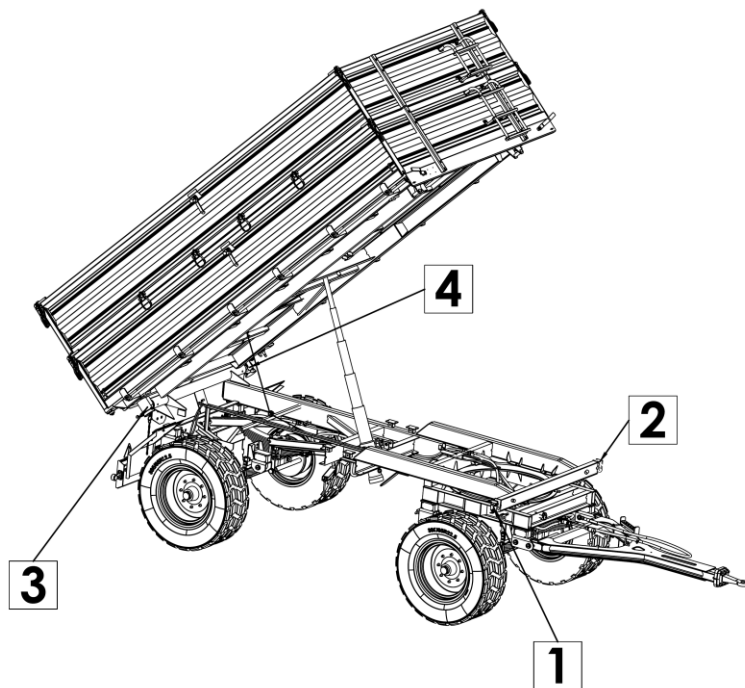

Fig. 14. Connecting the loading crate with the frame
- Remove two swivels connecting the load crate with lower frame (Fig. 14) from the holes on the opposite side in regards to the place of dumping the load, that is:
Opening or closing the lock of the loading crate requires moving handle 1 (fig. 14) in the right direction while pressing button 2 located under the handle